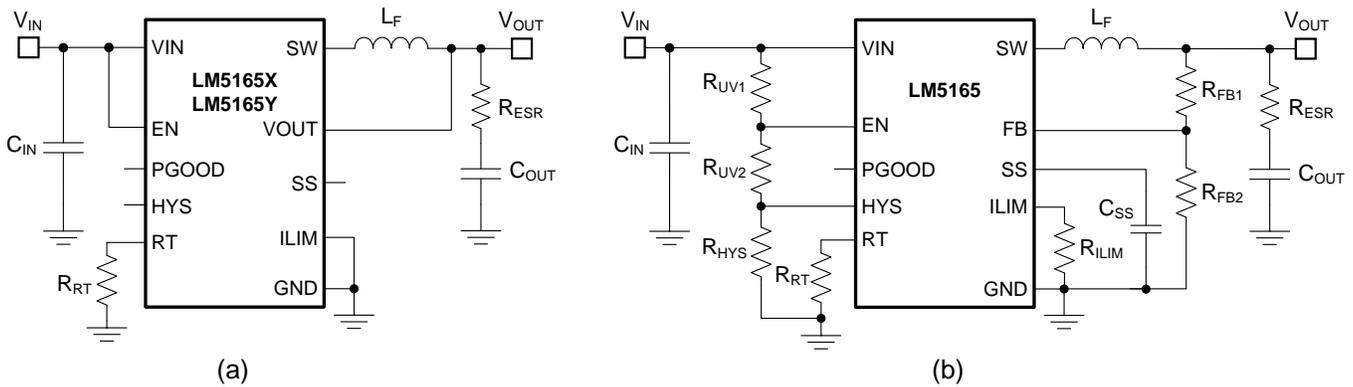

Figure 1. LM5165 COT-controlled Buck Converter Schematics, (a) Fixed Output 3.3 V or 5 V, (b) Adjustable Output
Figure 1(a) shows the schematic of a minimum parts count, fixed output voltage (3.3 V or 5 V), COT converter with continuous output current capability up to 150 mA. Figure 1(b) shows the schematic of a similar COT converter with output voltage adjustable using feedback resistors. Soft-start (SS), current limit (ILIM) and UVLO (EN and HYS) components are shown that are configurable as required by the specific application. The ripple voltage required at the FB pin is established using resistor R_{RIPPLE1} in series with the output capacitor.